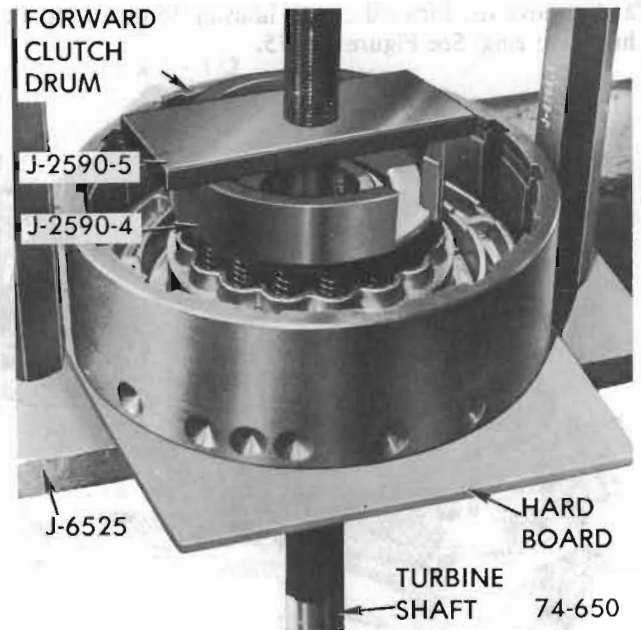

Figure 76-181
**NOTE:** *If turbine shaft is not removed, compress spring retainer as shown in Figure 76-181.*